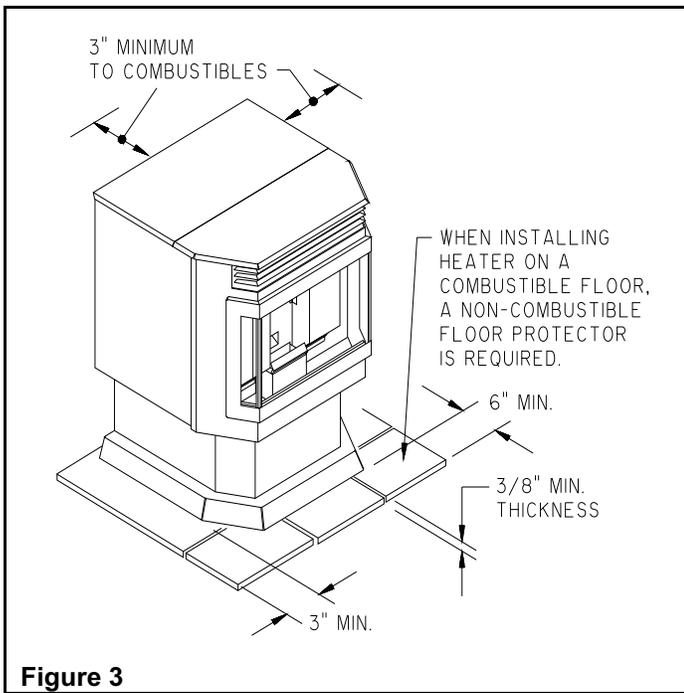

Figure 3
4. **A non-combustible hearth pad must be used if installed on a carpet, wood floor or other combustible material (see Figure 3).**